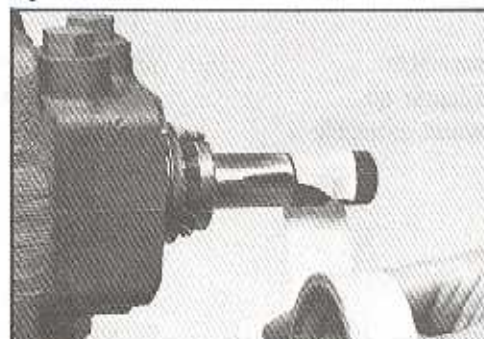

Figure 124
19. Tape the worm shaft (25B) serrations and lightly coat the remaining portion of the worm shaft with oil. SEE FIGURE 124.